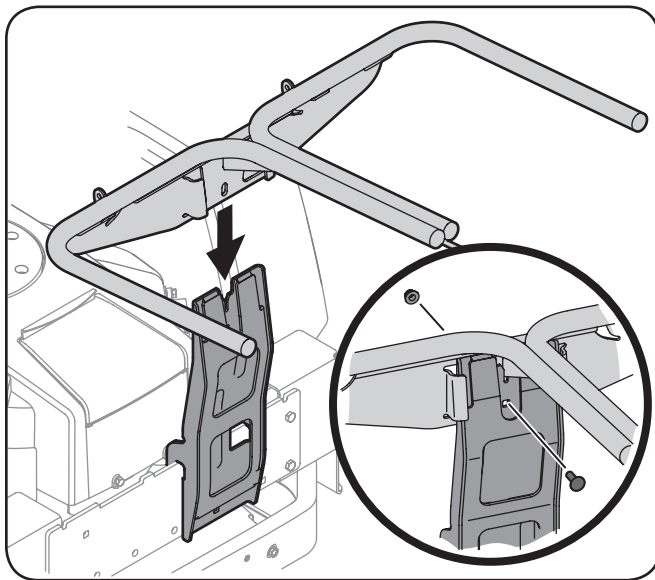

Figure 4-5
6. Install and secure the hanger assembly onto the upright support bracket using a 710-0276 carriage bolt and 712-04063 flange lock nut from hardware pack 689-00320. See Figure 4-5.